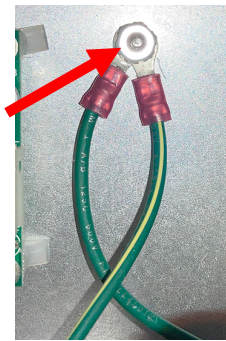

Figure 18
27. Remove the nut attaching the ground wire from the **OLD** harness and replace with the ground from the **NEW** harness (see Figure 18).